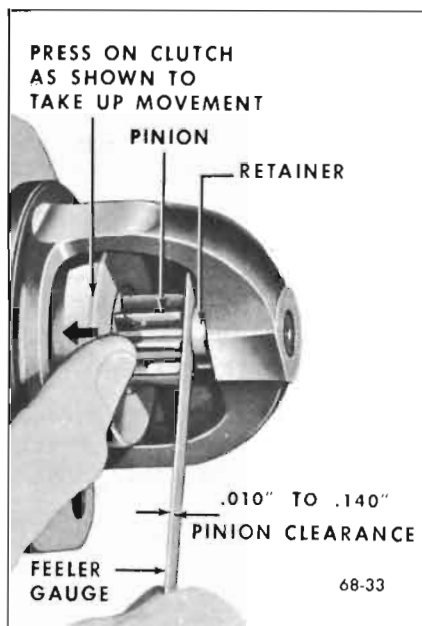

Figure 68-33—Checking Pinion Clearance
2. After energizing the solenoid, push the pinion away from the stop retainer as far as possible and use feeler gauge to check clearance between pinion and retainer. See Figure 68-33.